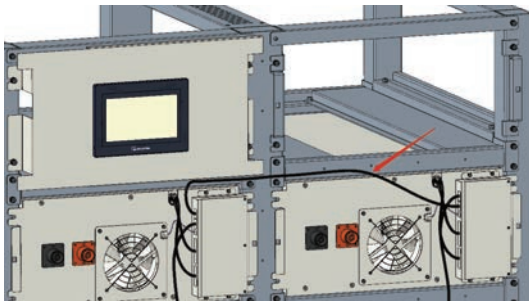

Figure 2.9
(5) Tenth and eleventh battery box BMU communication connection (Figure 2.9).